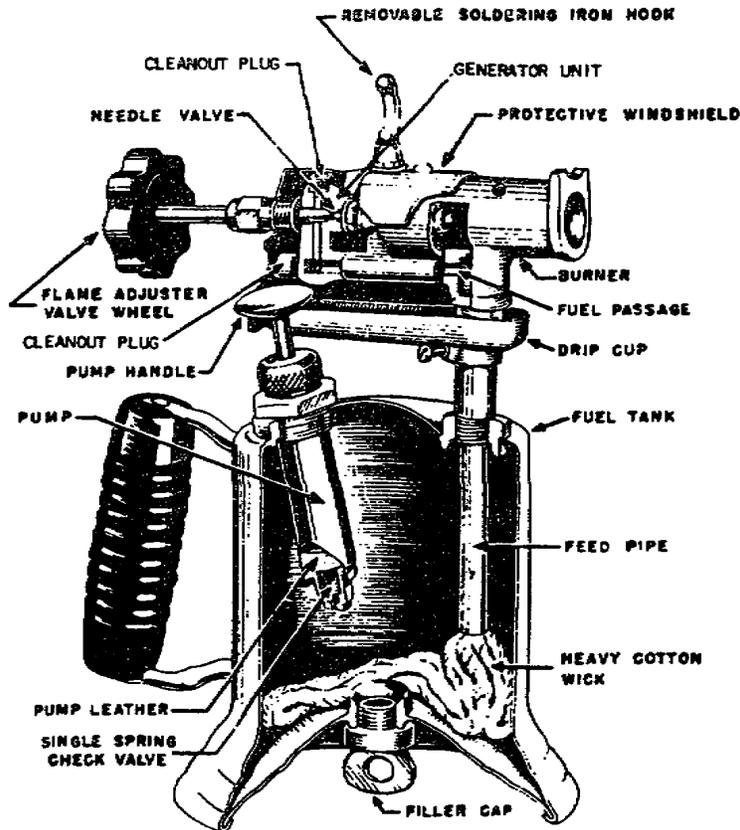

Figure 23. Gasoline blowtorch.
a. General. The gasoline blowtorch (fig 23) is commonly used as a means of heating the flame-heated soldering iron. However, with proper adjustment of the flame, it may also be used as a soldering torch.
**Note.** - One cleanout plug is in the top of the generating unit behind the soldering iron hook, the other below the needle valve (fig 23).